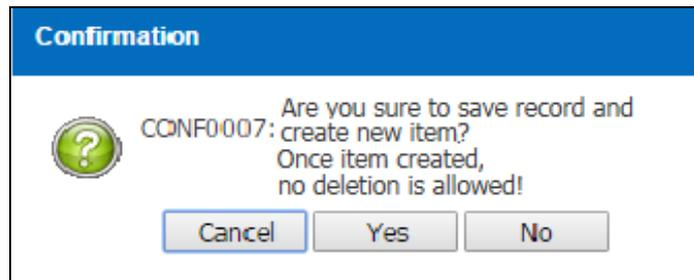

Figure 3.7.1-6 Confirmation Message
- System will display a Confirmation Message as Figure 3.7.1-6